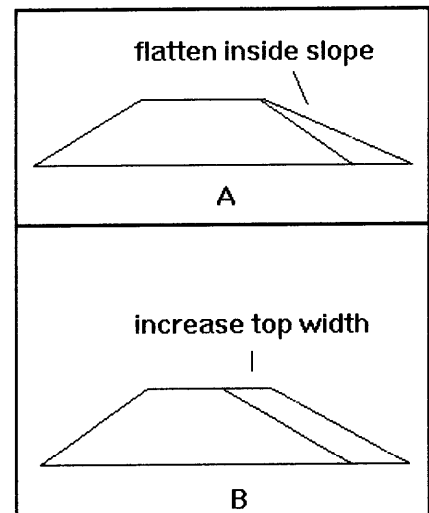

Figure 1. To extend pond life, lengthen the inside slope of the levee and widen the top.
- flattening the inside slope of the pond levee (Fig. 1);
- widening the top of the pond levee (Fig. 1); and